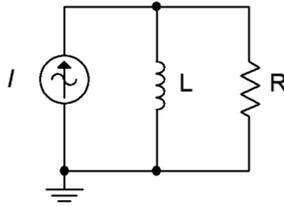

Figure 3.21
34. For the network shown in Figure 3.21, determine a value of L such that the impedance magnitude of the circuit is  $200\ \Omega$ . The source is a 60 Hz sine and R is  $680\ \Omega$ .
36. For the circuit shown in Figure 3.21, determine a value for L such that the magnitude of the circuit voltage is 50 volts. The source current is a 2.3 A 60 Hz sine and  $R = 330\ \Omega$ .